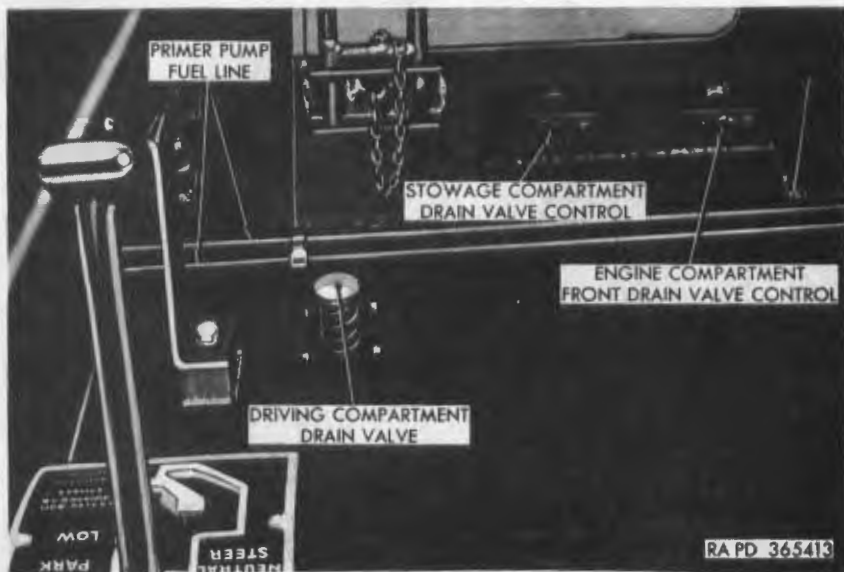

Figure 13. Driving, stowage, and engine compartment front drain valve controls.
b. The driving compartment drain valve (fig. 13) is in the hull floor to the right of the driver's seat. This valve is opened by depressing and is spring-loaded to return to the closed position. However, the valve can be retained in the open position by depressing and turning one-quarter turn either left or right.
c. Controls for the stowage compartment drain valve and the engine compartment front drain valve are located to the right rear of the driver's seat. To open either valve, pull outward on the control (fig. 13) and hold in this position until draining is complete. The valve will close by spring tension when the control is released.